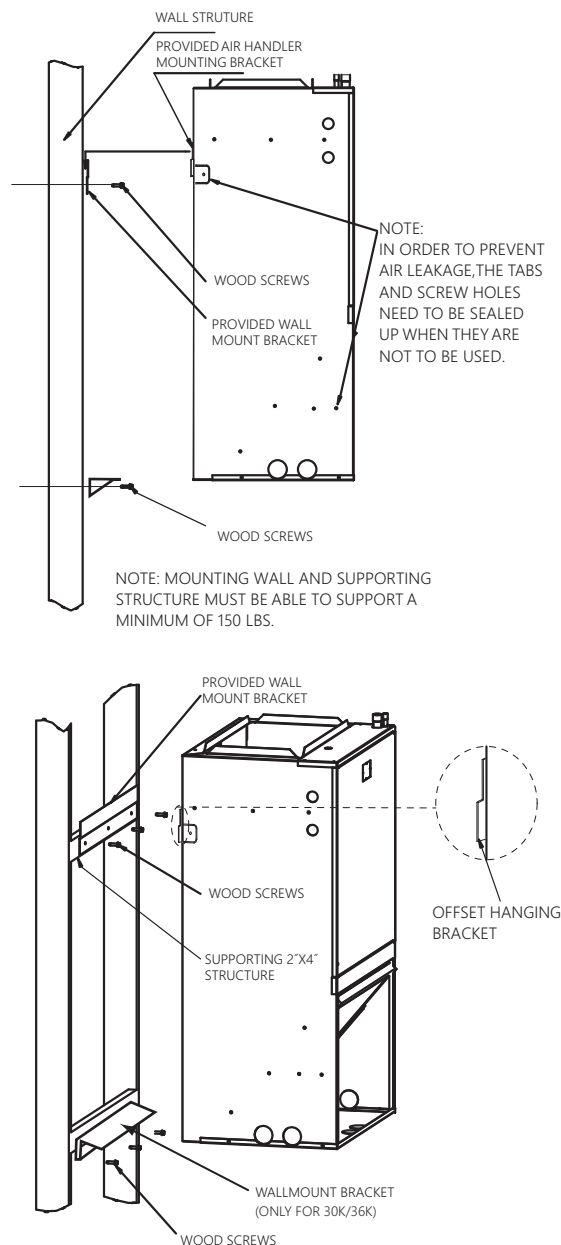

Fig. 3-1 Wall Mount
The air handler comes standard with a wall mounting bracket and air handler mounting bracket. Reference Figure 3-1 for more details.
3. Lift the air handler above the wall mounting bracket and attach the unit to the installed bracket. Reference Figure 3-1.
4. Install the additional bottom plate for extra support for this type mounting (see figure 3-1).